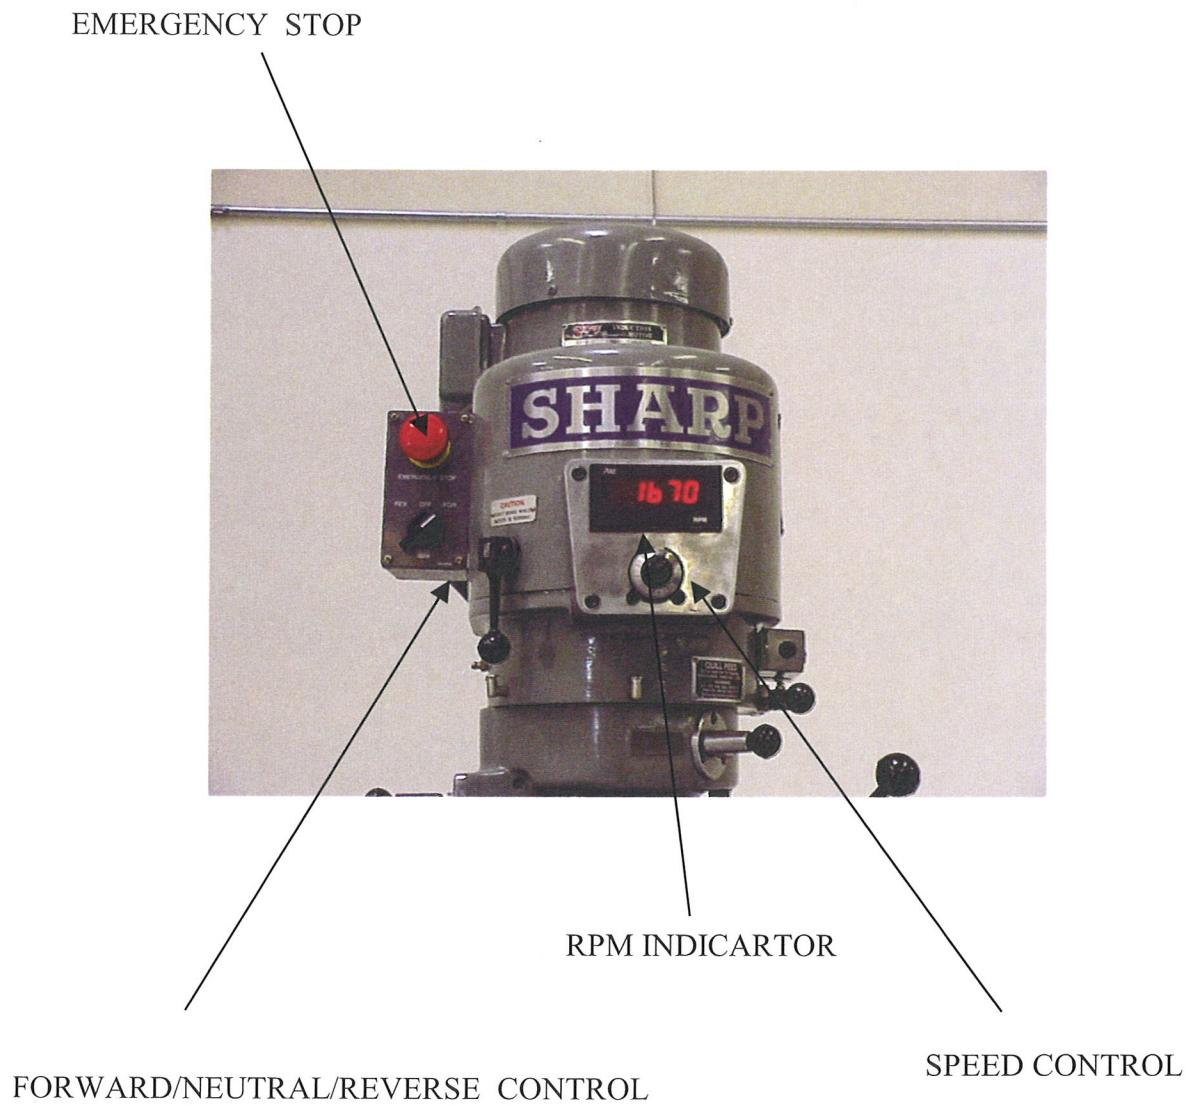

Figure 20
1. Prior to unpacking or removing from skid, the machine should be moved by use of a forklift or reinforced cable. (Fig. 20 & 21)